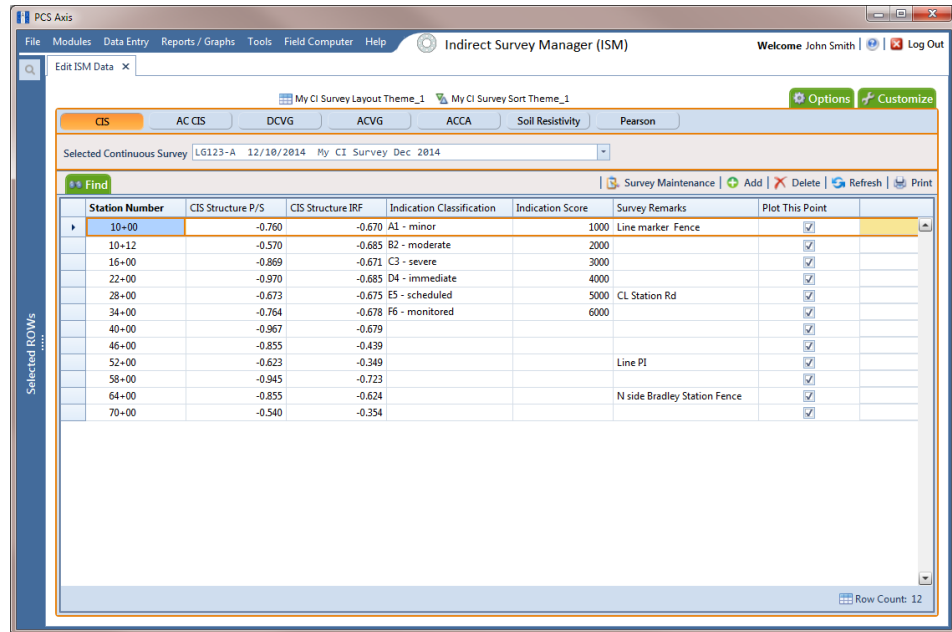

Figure 7-96. Edit ISM Data
- 3 Click **Data Entry > Edit ISM Data** to open the ISM data entry grid. Then click a button labeled with the type of continuous survey data you want to work with, such as the **CIS** button  (Figure 7-96).